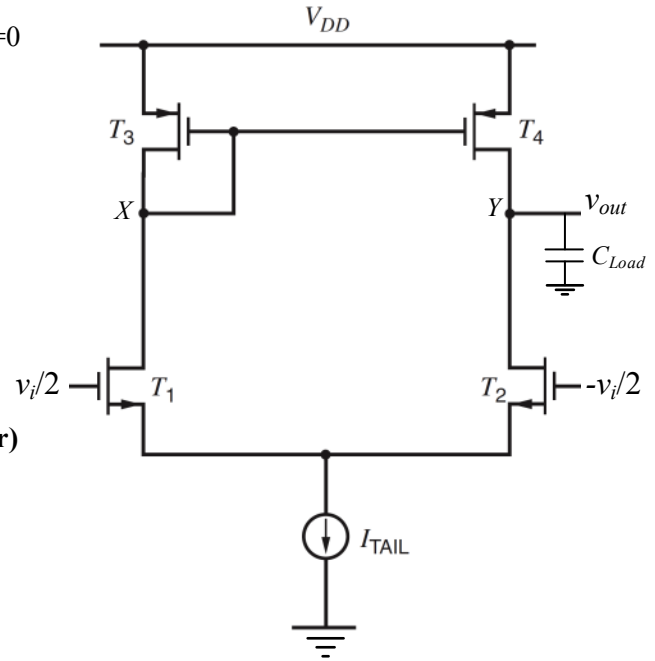

Figure 1
a) What is the name and function of the circuit shown in Figure 1? (1 point)